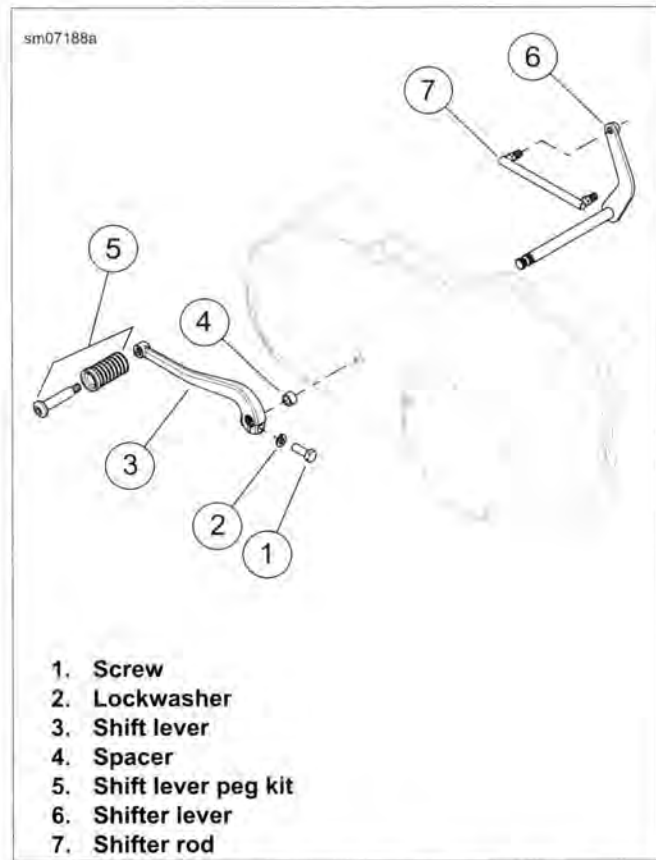

Figure 5-4. Mid-Control Shifter Linkage
6. See Figure 5-4. Install shift lever (3) with screw (1) and lockwasher (2). Tighten to 18-22 ft-lbs (24.4-29.8 Nm).